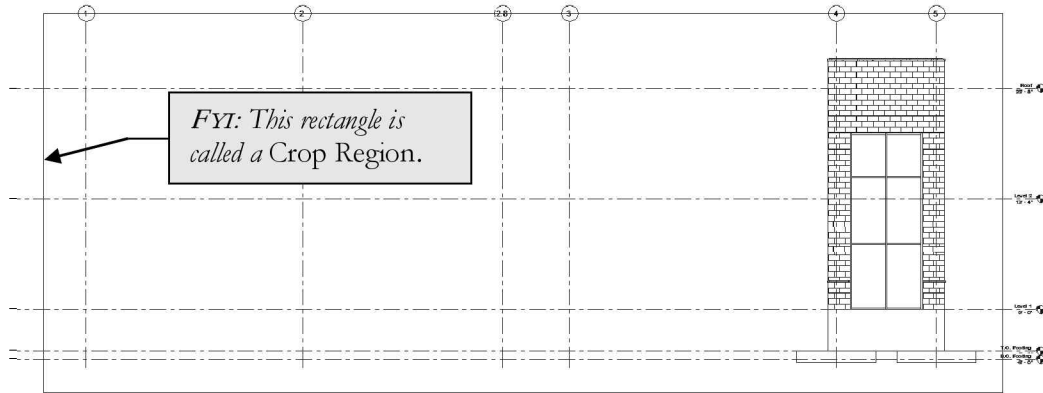
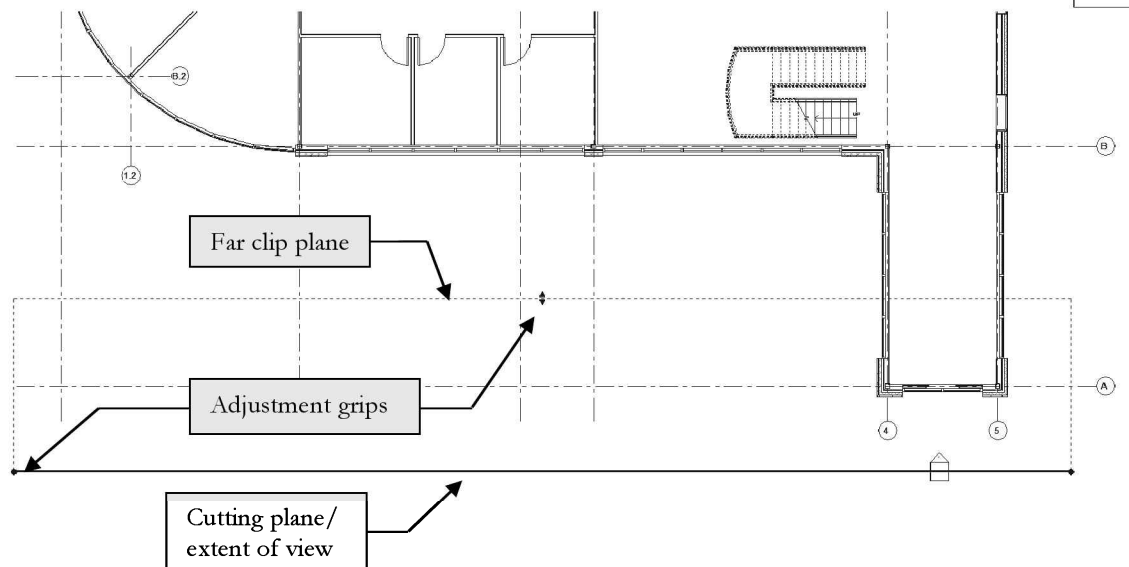
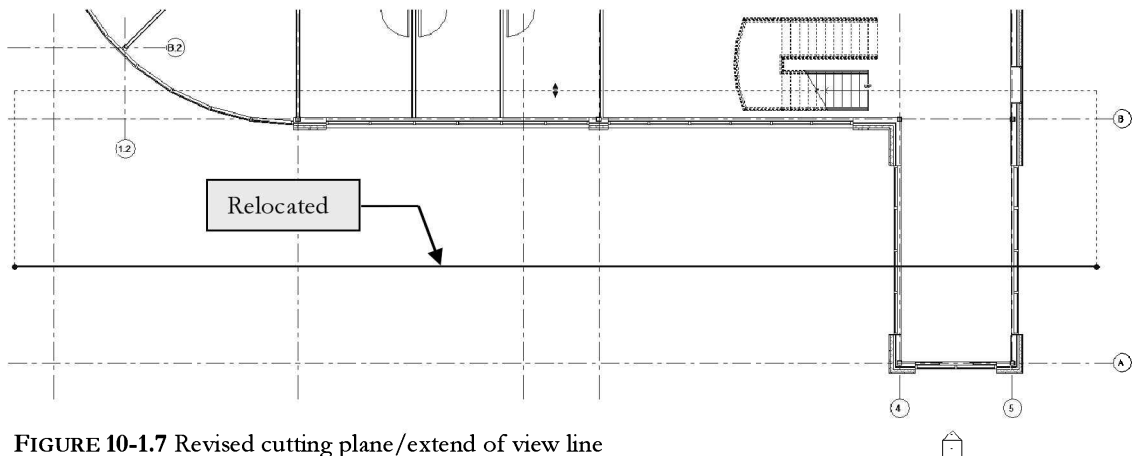

FIGURE 10-1.3 New exterior elevation view – initial state
FIGURE 10-1.5 Selected elevation tag
FIGURE 10-1.7 Revised cutting plane/extend of view line
Your elevation tag should look similar to Figure 10-1.5.
The elevation tag, as selected in Figure 10-1.5, has several features for controlling how the elevation looks. Here is a quick explanation:
- **Crop Region Visible:** This displays a rectangle in the elevation view indicating the extent of the cropping window, described above. *When selected in elevation view, the rectangle can be adjusted with the adjustment grips. See Figure 10-1.3.*
13. With the elevation tag still selected, as in Figure 10-1.5, drag or move the “cutting plane/extent of view” line up **into** the main entry as shown in Figure 10-1.7. Do not move the tag itself.
As you can see, the grid lines appear automatically in the elevations, as do the level datums. Take a minute to observe how the far clip plane controls the visibility of Grid line **1.2** between Figures 10-1.3 and 10-1.8; it must be intersecting the grid lines in plan for it to show up in elevation; compare Figures 10-1.5 and 10-1.7. This is good as it just clutters the drawing to see grid lines that have nothing to do with this part of the drawing.